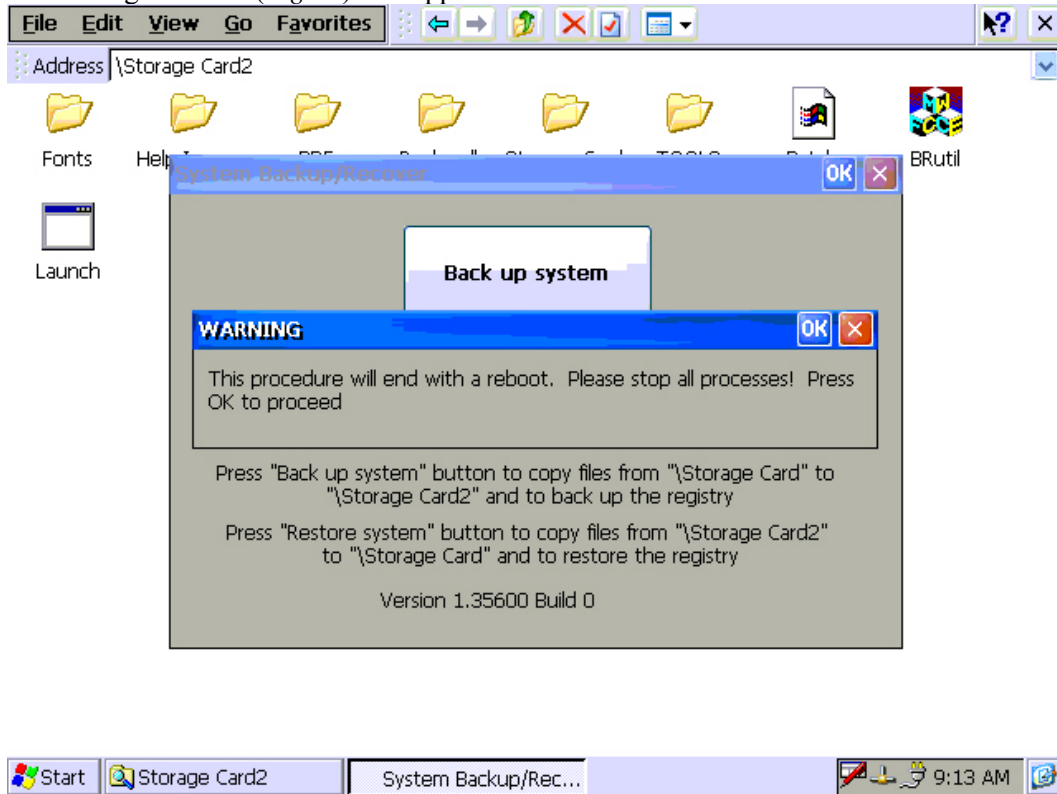

Fig 22
45. A Warning Window (Fig 22) will appear.
46. Press the “OK” button in the upper right corner of the Warning Window (Fig 22).